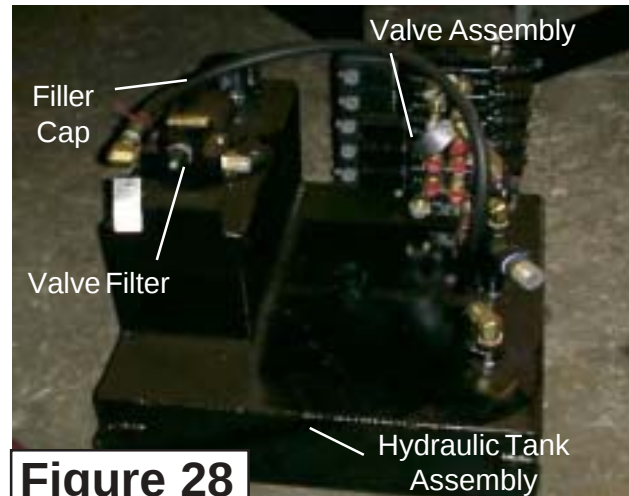

Figure 28
1. Hydraulic Tank. The Hydraulic tank is sent with the Valve Assembly bolted to it. The Tank Filler cap is attached to it and the Valve Filter Assembly is mounted on it. The Openings (For Hoses) are plugged and should remain Plugged until Hoses are connected. Never leave a Hose or Fitting unplugged during Assembly (**See Figure 28**).